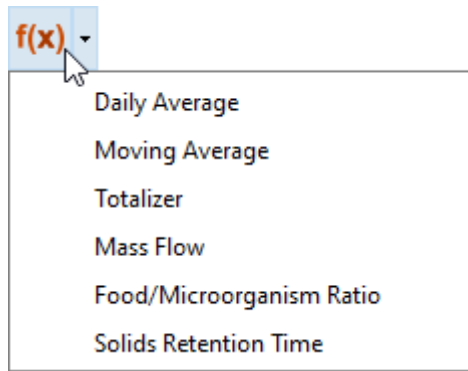
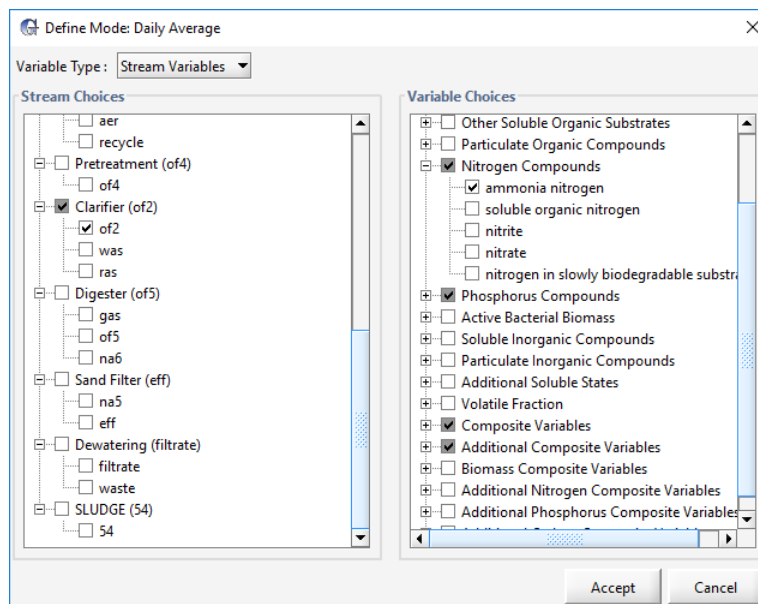

Figure 5-1 – Define Menu Options
Figure 5-2 – Define Dialog for Daily Average
1. **Click on the *Define* button** and select either Daily Average, Moving Average, Mass Flows or Totalizer from the list (**Figure 5-1**). A dialog window will appear as shown in **Figure 5-2**.